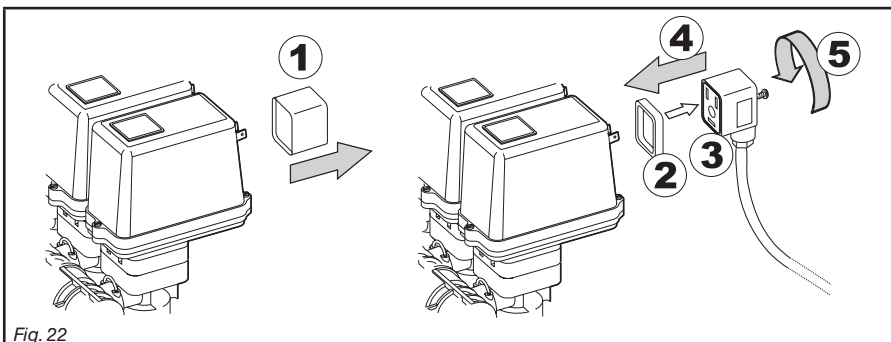

Fig. 22
- All valve connectors must be equipped with seals before installation (Fig. 22).
- Remove the protection cap (1, Fig. 22) from the electric valve.
- Place the seal (2) onto the connector (3), and push the connector fully on (4): **be careful not to bend the contacts upon insertion on the valve.**
- Tighten the screw (5) fully home.